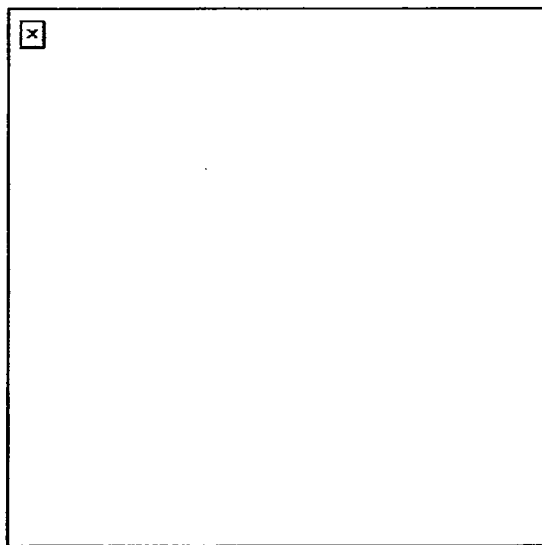

Figure 10. Attachment of the feed throat assembly.
7. Attach the feed throat assembly (Figure 10).